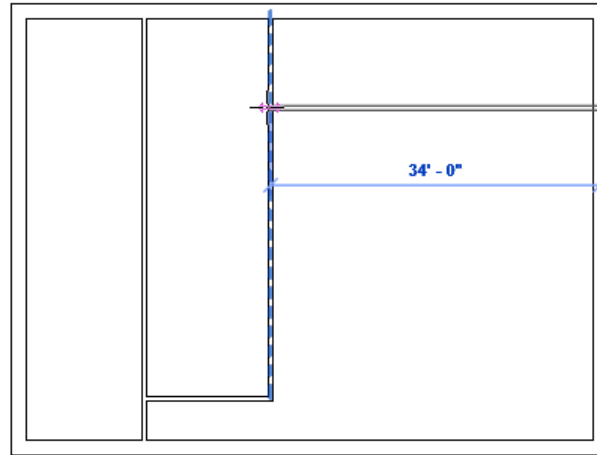

Figure 3-85 Horizontal wall created at the distance of 10' from the outer exterior wall
7. Press and hold the SHIFT key and move the cursor horizontally towards left until it reaches the vertical interior wall. Next, click to specify the endpoint of the wall, as shown in Figure 3-85. Now, press ESC twice to finish the sketch of the wall.